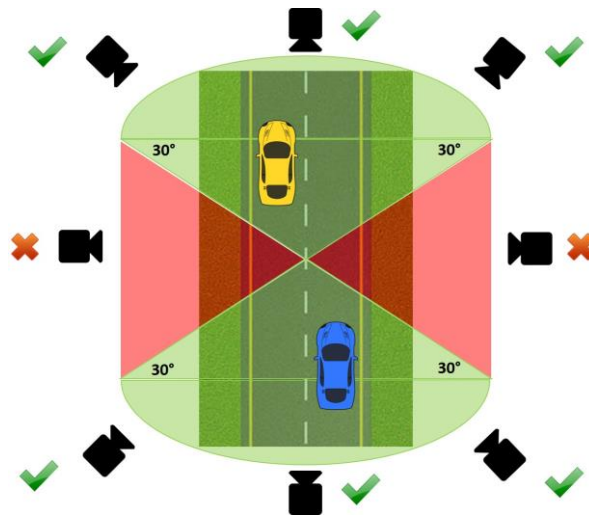

Figure 1 – Correct and wrong camera installation examples (green correct, red wrong)
1. It must be installed respecting the constraints represented in Figure 1